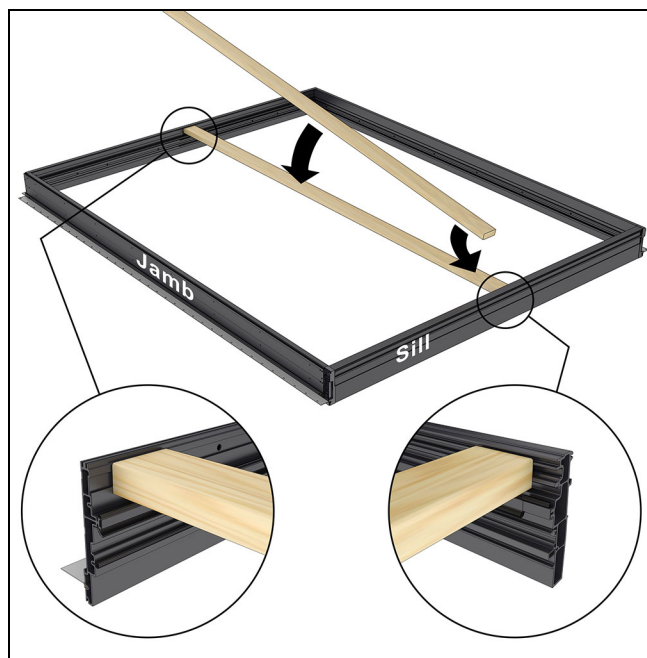

Figure 37
2. Insert a "story pole" between the top of the sill and the head jamb track. Refer to field calculations for the proper length of story pole (frame height minus 2 5/8"). See Figure 37.